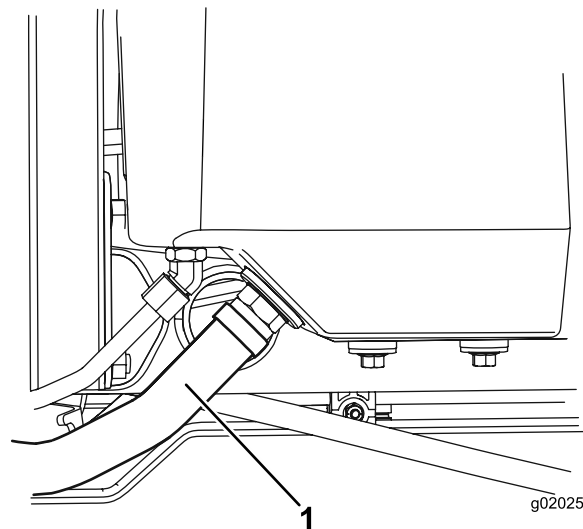

Figure 92
2. Disconnect the large hydraulic hose (Figure 92) from the reservoir, and let the hydraulic fluid flow into a drain pan.